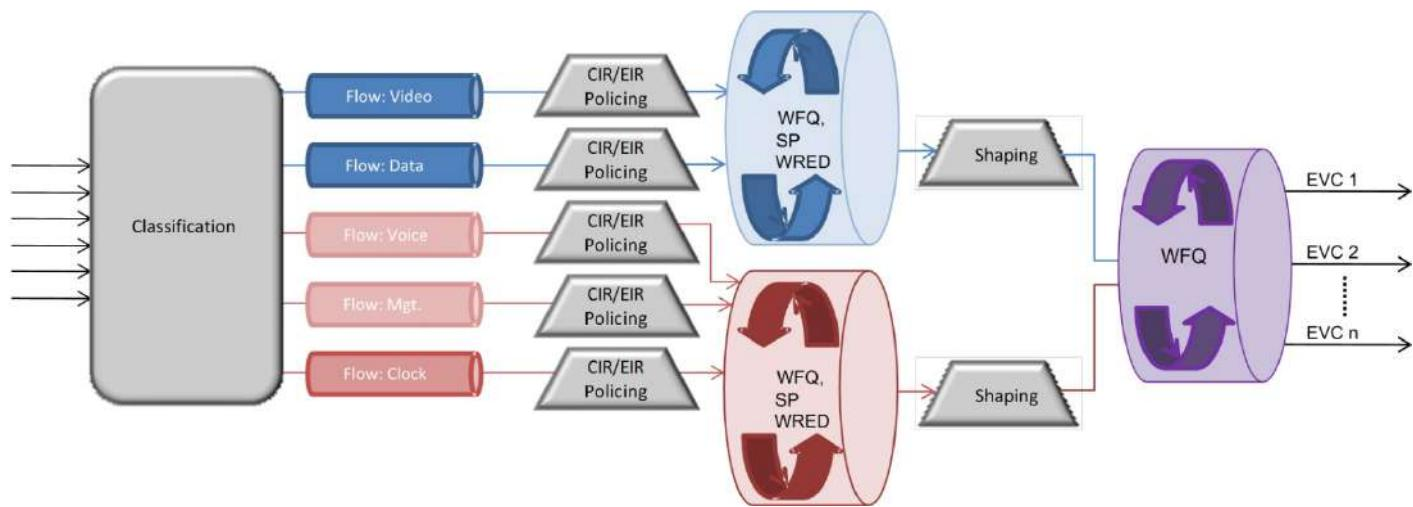

Figure 1-8. Data Flow
*Figure 1-8* shows the data flow in the device. *Table 1-1* provides an overview of the traffic handling stages.